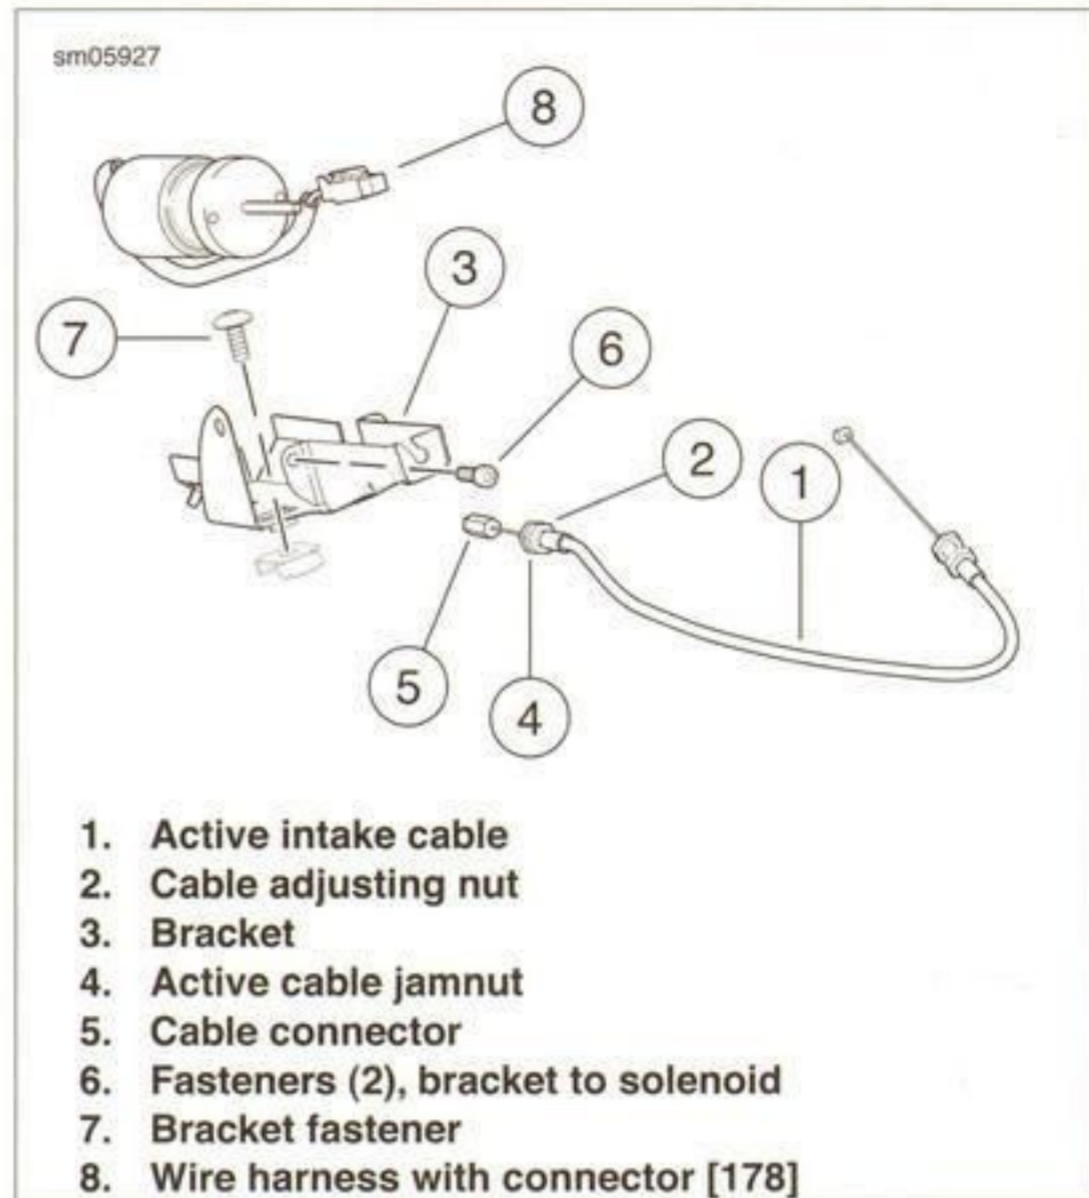

Figure 4-44. Active Intake Solenoid and Components
1. See Figure 4-44. Disconnect electrical connector [178] (8).
2. Hold solenoid shaft by flat spot provided and break cable connector (5) loose.
4. Loosen jamnut (4) and disconnect cable (1) from bracket (3).
- See Figure 4-44. Install solenoid bracket and tighten fastener (7) to 10.6-11.8 Nm (94-104 **in-lbs**).
1. Install solenoid into bracket (3) and tighten bracket to solenoid fasteners (6) to 2.7-3.0 Nm (23.5-26.0 **in-lbs**).
3. Install active cable (1) into bracket (3) and leave jamnut (4) loose until the setting can be verified.
4. Connect active cable to solenoid shaft and tighten cable connector (5) to 4.1-4.5 Nm (36-40 **in-lbs**).
5. Connect electrical connector [178] (8).